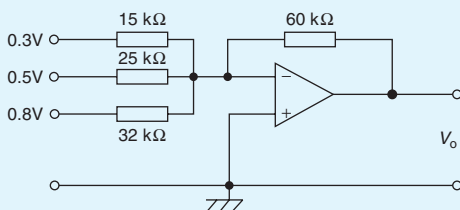

Figure 19.20
3. For the summing op amp shown in Fig. 19.20, determine the output voltage, V_o